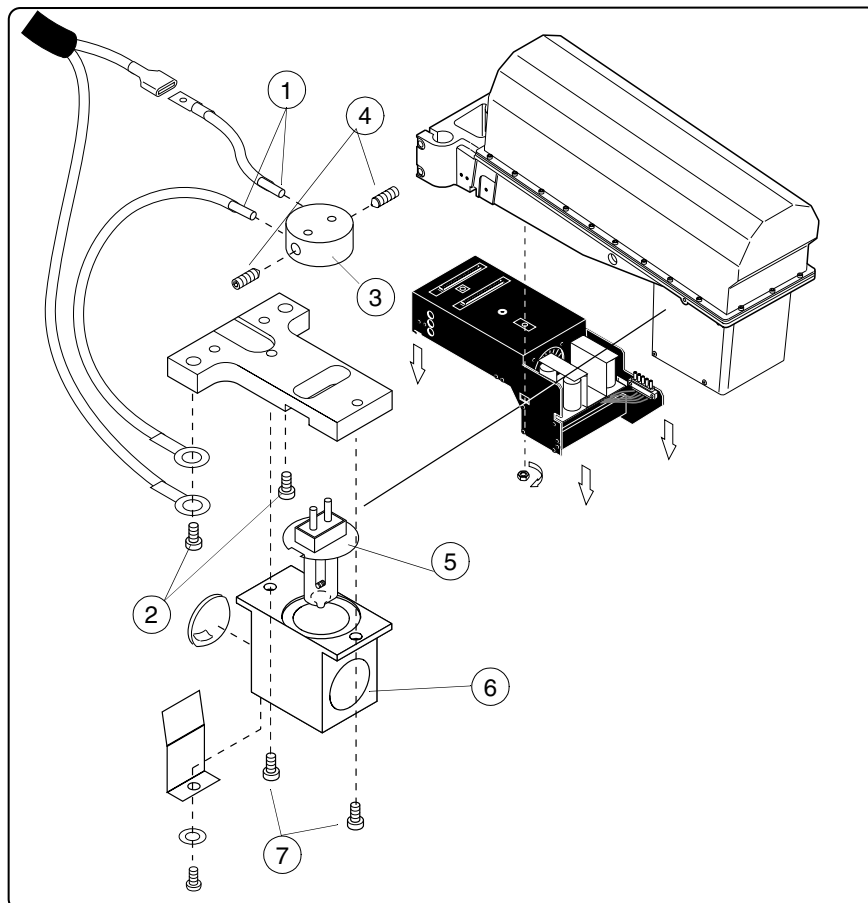

Figure H.13
- Disconnect the bulb wires (Fig. H.13, 1).
- Remove the lamp housing assembly from the installation plate by removing the two screws (Fig. H.13, 2).
- Remove the lamp holder (Fig. H.13, 3) by loosening the two screws (Fig. H.13, 4).
- Remove the lamp housing (Fig. H.13, 6) by removing the two screws (Fig. H.13, 7).
- Pull the bulb (Fig. H.13, 5) out of the housing and replace with a similar one (12V/30W).